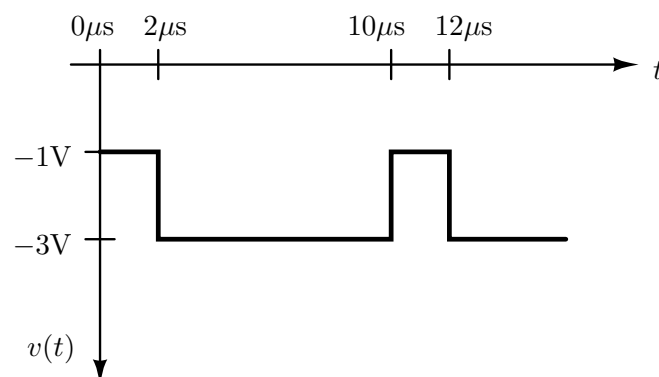

Figure 4:
4. Display the waveform shown in Figure 4. Do the same measurements as you did in Procedure #3.